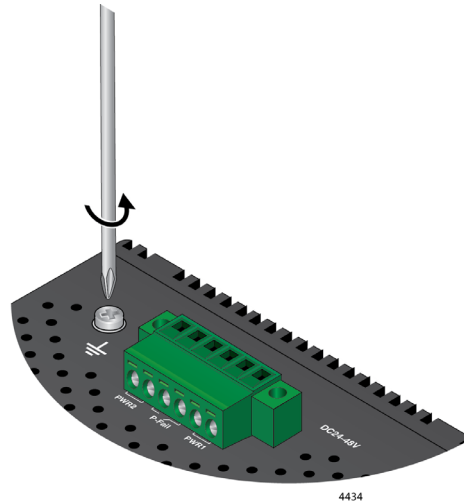

Figure 26. Loosen Grounding Screw
2. Loosen the grounding screw several turns with a #2 Phillips-head screwdriver. Refer to Figure 26 on page 69.